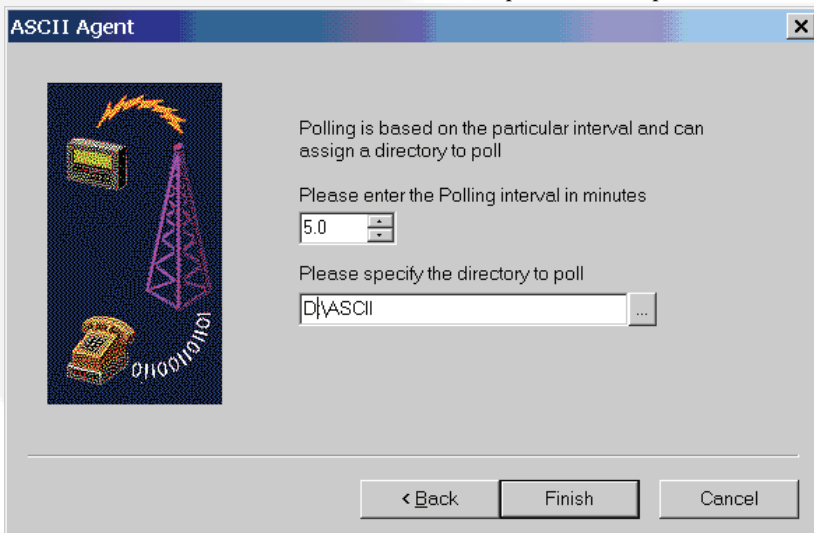

FIGURE 15-15. ASCII AGENT SETUP
4. Enter the Polling interval, in half minute increments. This interval determines how often the agent checks the directory for new files to send. Figure 15-15.